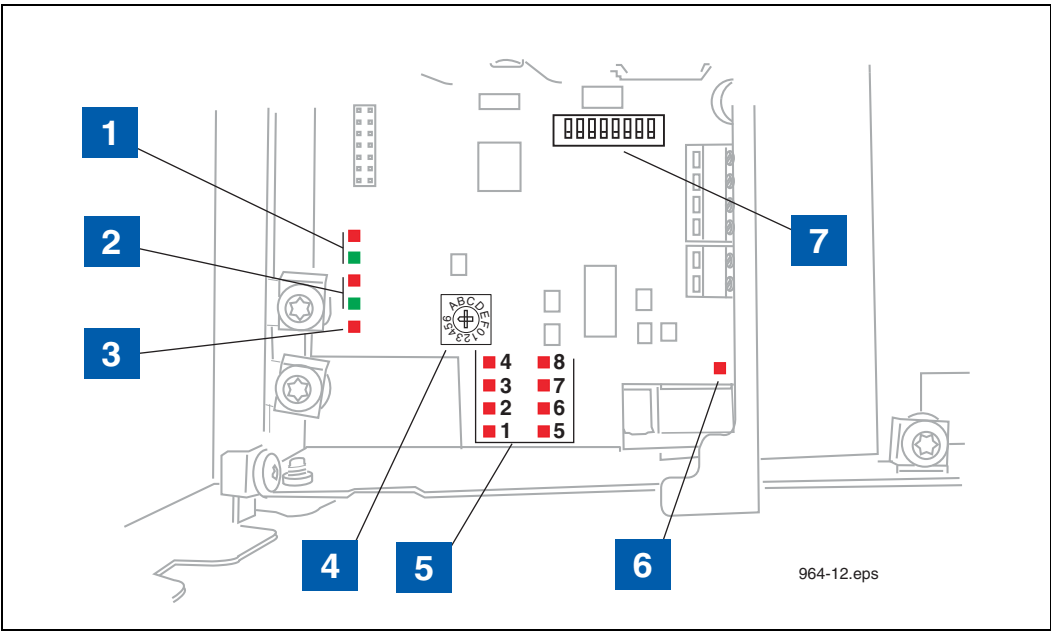

Figure 12. TLS RF Diagnostic LEDs And Switch Locations
- b. Go to the TLS RF, open its cover. One of the 8 Red received LEDs should be flashing (refer to item 5 in Figure 12). Observe which LED is lit and compare it against the Transmitter Device Number; they should match. For example, if the Transmitter ID is set to 1, the LED number 1 in the TLS RF should be flashing.
2. In this example, device output 1 is a CCVP transmitter - Observe polarity. Note: each time a transmission is received from this device, LED 1 (see item 5 in Figure 12) will flash.
3. In this example, device output 2 is a Flow Meter - Observe polarity. Note: each time a transmission is received from this device, LED 2 (see item 5 in Figure 12) will flash.
Figure 12 locates the diagnostic lights and setup switches in the TLS RF.
LEGEND FOR NUMBERED BOXES IN Figure 12